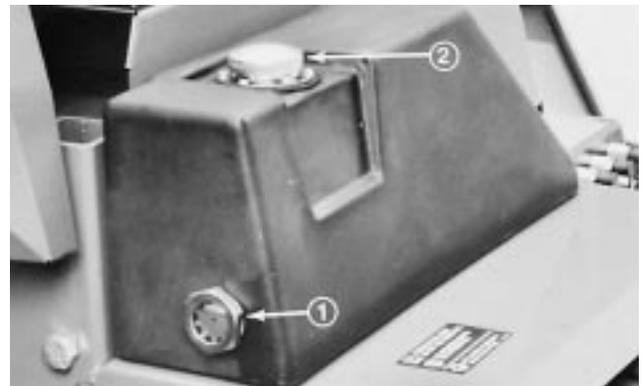

Figure 6
1. Fluid level should be checked daily through sight glass at rear of hydraulic reservoir (Fig. 6). When oil is cold, level will be slightly below center, but should be in the middle of the sight glass when the oil is warm.
2. If oil level is low, add hydraulic oil to the reservoir (Fig. 6); refer to Machine Fluid Recommendations, page 8.